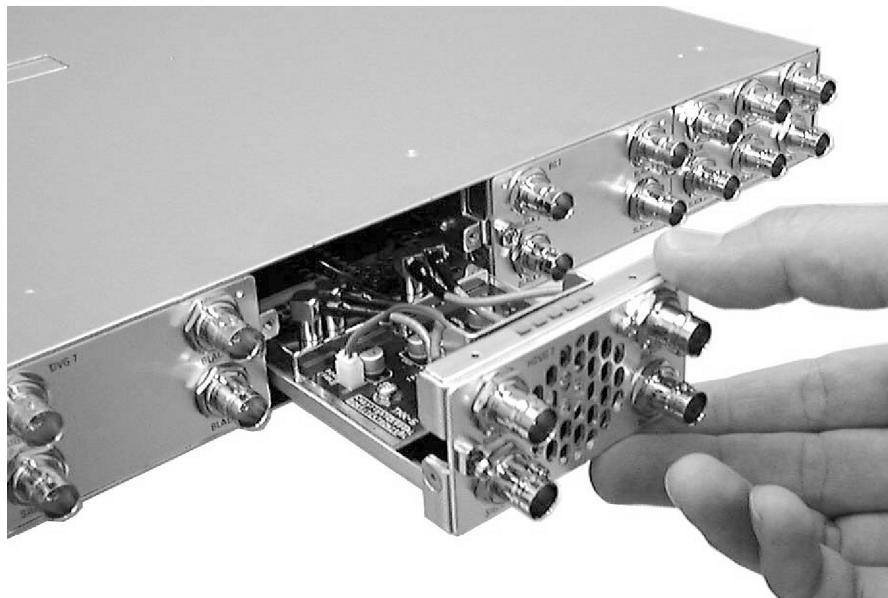

Figure 6: Installing the module (TG700 shown)
4. Insert the module into the slot, paying attention to the module orientation. (See Figure 6.) Push the module into the slot until the connector board of the module is firmly engaged with the Main board of the mainframe.